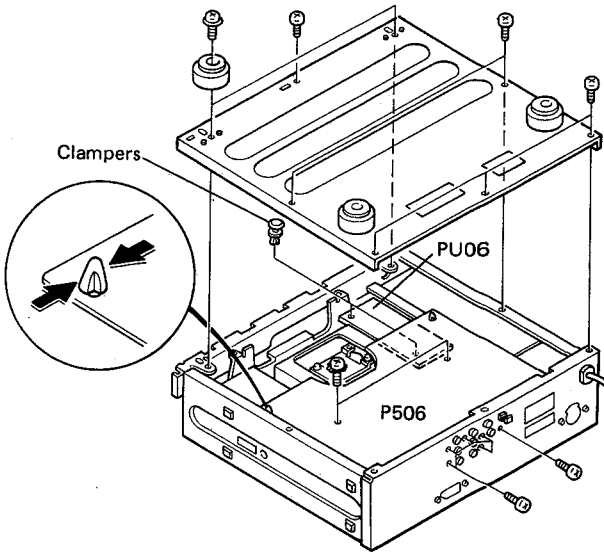

Fig. 9
1. Remove the bottom plate. (Fig. 9)
2. Remove the fixing screws of the main assembly (P506) and the terminal fixing screws of the rear panel. (Fig. 9)
5. Turn over the unit, then detach the bottom plate, the main assembly (P506) and system control assembly (PU06). (Fig. 9)